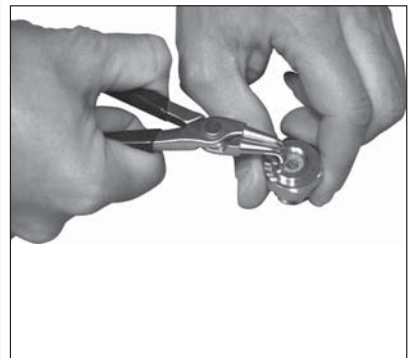

FIG. 9
9. Using the snap ring pliers (B-14), remove the Yoke retainer nut (23), the Snap ring (2), the Sintered filter (8), and the Filter spring (12) (Fig. 9).